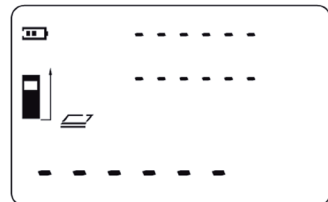

Fig. 8
1. Press the Mode button (4) to access the area measurement mode; the flashing line in the symbol  indicates the length to be measured (fig. 8).